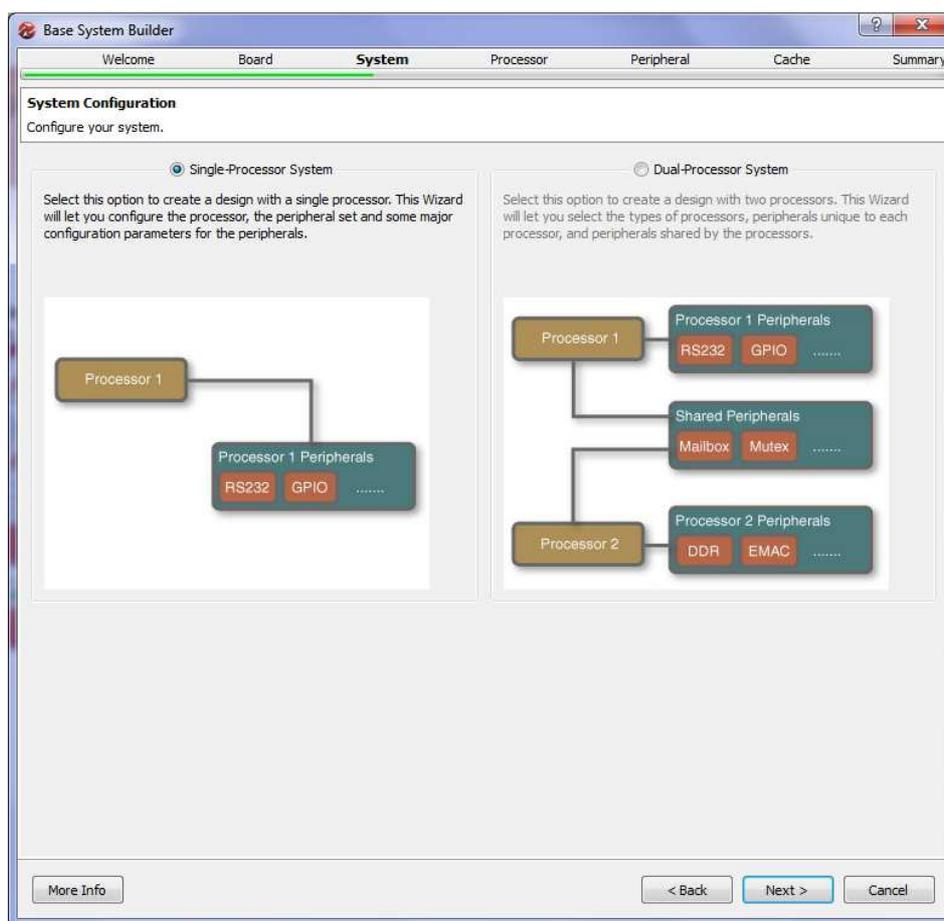

Figure 6. Select System Architecture (Step 6)
**Step 6:** The following step is to select the system type. This is shown in **Figure 6**. The XPS allows us to choose between two types of system architecture: